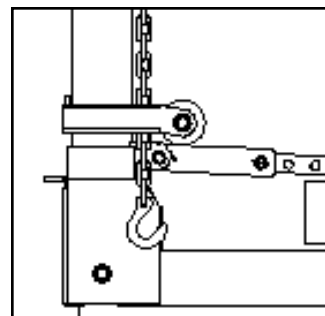
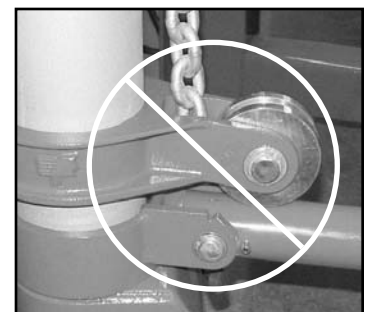

Figure 28
Figure 29
2. When storing collar at bottom of tower (see Figure 28), DO NOT rest collar roller directly on the force arm (see Figure 29) as it will be more difficult to lift the collar.